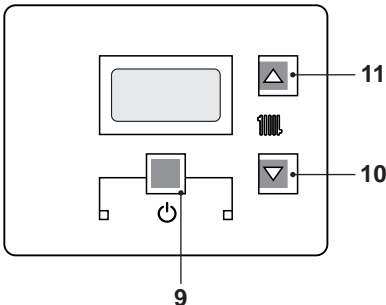
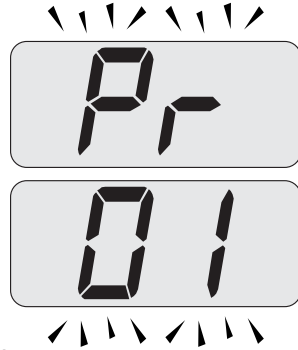
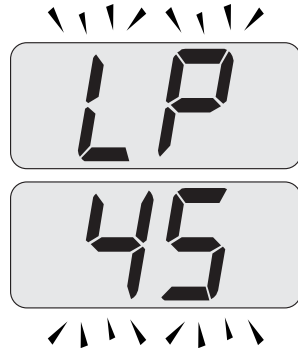

Fig. 9.10
Fig. 9.11
Fig. 9.12
- Enter in "programming mode" by pressing keys 9 - 10 - 11 (Fig. 9.10) for 10 seconds at the same time until the letters **Pr** that alternate with code **01** are displayed on the LCD display, indicating that "parameter 01"(Fig. 9.11) has been activated.
- Press keys 10 and 11 (Fig. 9.10) at the same time until the LCD display displays the letters **LP** that alternate with the heating water temperature value (e.g.45), indicating the activation of the "chimney sweep function" at minimum output (Fig. 9.12).
- Press keys 9 - 10 - 11 (Fig. 9.10) at the same time again to exit the "chimney sweep mode" and return to the previously set boiler status (Fig. 9.15).